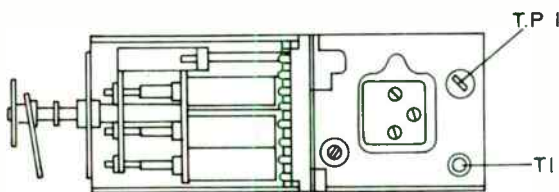

FIG 11
7. Test point location details: See Fig. 11, 12, 14